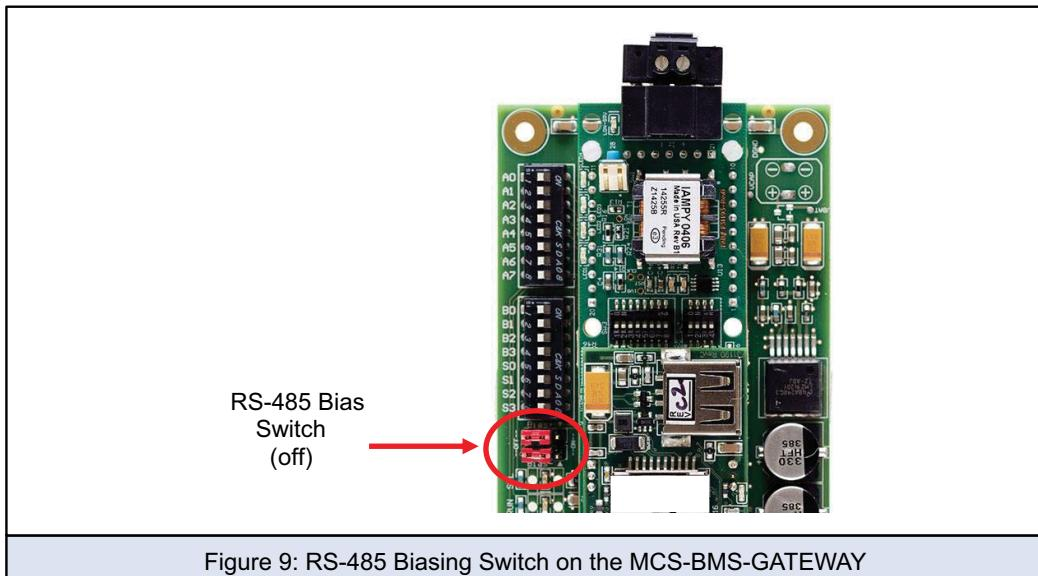

Figure 9: RS-485 Biasing Switch on the MCS-BMS-GATEWAY
- The OFF position is when the 2 RED biasing jumpers straddle the 4 pins closest to the outside of the board of the MCS-BMS-GATEWAY. (Figure 9)